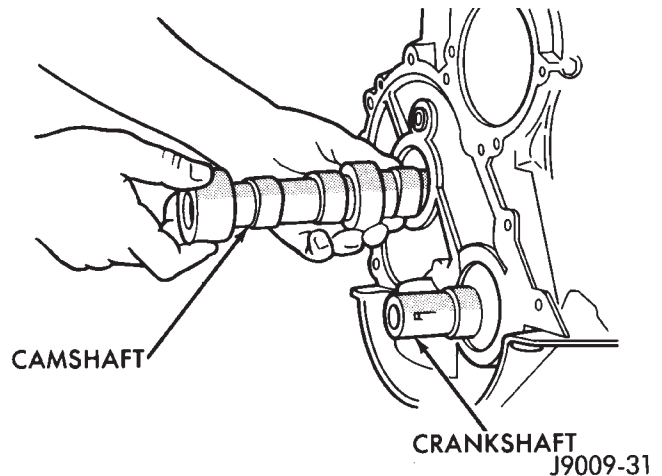

Fig. 47 Camshaft
- (5) Scribe a mark on the distributor housing near the clamp and continue the scribe mark on the cylinder block in line with the distributor mark.
- (6) For ease of installation, note the position of the rotor and distributor housing in relation to adjacent engine components.
- (7) Remove the distributor and ignition wires.
- (8) Remove the engine cylinder head cover.
- (9) Remove the rocker arms, bridges and pivots.
- (10) Remove the push rods.
- (11) Remove the hydraulic valve tappets from the engine cylinder head.
- (12) Remove the vibration damper.
- (13) Remove the timing case cover.
- (14) Remove the timing chain and sprockets.
- (15) Remove the camshaft (Fig. 47).
- (1) Inspect the cam lobes for wear.
- (2) Inspect the bearing journals for uneven wear pattern or finish.
- (3) Inspect the bearings for wear.
- (4) Inspect the distributor drive gear for wear.
- (5) If the camshaft appears to have been rubbing against the timing case cover, examine the oil pressure relief holes in the rear cam journal. The oil pressure relief holes must be free of debris.
- (6) Lubricate the camshaft with Mopar Engine Oil Supplement, or equivalent.
- (7) Carefully install the camshaft to prevent damage to the camshaft bearings (Fig. 47).